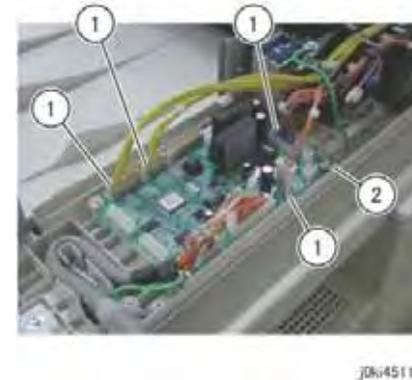

Figure 1 DADF Connectors
6. Disconnect the DADF PWB connectors. (Figure 1)